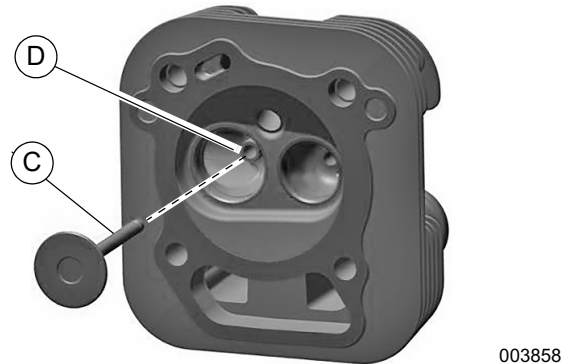

Figure 14-38. Insert Intake Valve
2. See Figure 14-38. Apply assembly lube to intake valve stem (C). Insert stem into valve guide (D) in head assembly at the combustion chamber side.